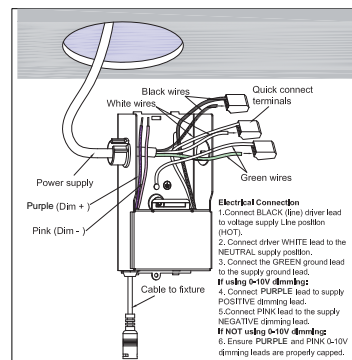

Fig.4
- To replace the trim, twist counterclockwise to remove it from the lamp. Then, twist clockwise to lock the desired trim in place. Connect the driver and the downlight connectors by pushing them together, and then twist to lock. Insert the junction box through the mounting hole and secure it to the ceiling joist. (Fig.4, Figure B)